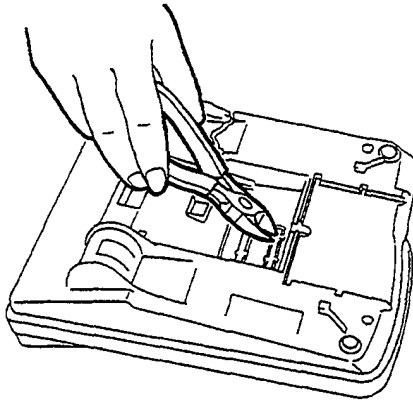

Figure 1-80 Remove the Knockouts to Install ADA(1)-W (BK)/(SW) Unit or ADA(2)-W (BK)/(SW) Unit
3. Remove the knockout (second from the top) on the bottom of the Multiline Terminal. Refer to Figure 1-80 - Remove the Knockouts to Install ADA(1)-W (BK)/(SW) Unit or ADA(2)-W (BK)/(SW) Unit.